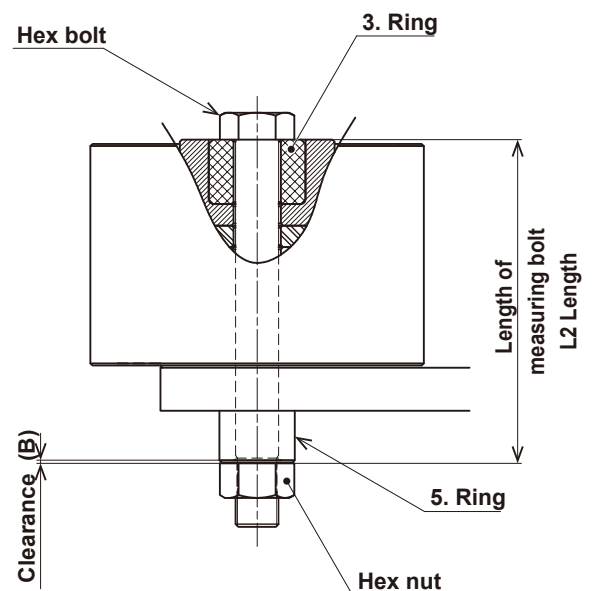

Figure 5
(1) Insert the measuring hexagon bolt through the hole in the # 3 ring of the AFC-20G2 main unit.
(2) Attach the hex nut to the hex bolt coming out of the # 5 ring.
(3) The distance between the hexagon bolt and the hexagon nut matches the actual length of the fastener. This length should be adjusted to the same dimension as the bolt dimension L2 of the ultrasonic axial tension checker TT series. (Fig. 5)
(4) Install with a gap (B) so that the hexagon nut and # 5 ring do not come into contact with each other.
(5) If there is no gap (B) between the # 5 ring and the hexagon nut, the correct measurement axial force will not be generated.
(6) If the fastening body length is longer than the distance between the # 5 ring and the # 3 ring, prepare a washer or plate separately between the # 3 ring or the # 5 ring and install it.